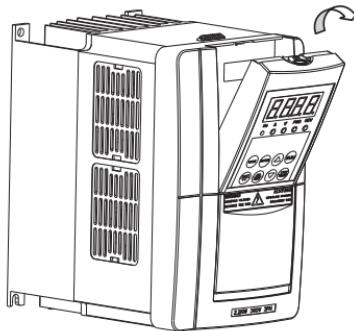

Fig. 3-8 Mounting Demonstration of the operator panel and connecting wire of the inverter Model A
**Step 1.** Hand down and press down the notch of the upper side of the keypads .and buckle up. pull down the wire between the keypad and control board . Then remove the keypad. (as shown in Figure 3-8)